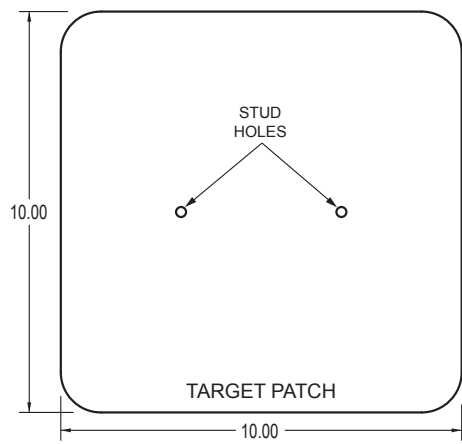

Figure 6.
- Install a 10" x 10" target patch (patch material is to match the roofing material installed on the roof) over the base plate. Cut two small holes in the target patch so that when it is installed it will fit tightly over the threaded studs and be centered over the base plate. See Figure 6.